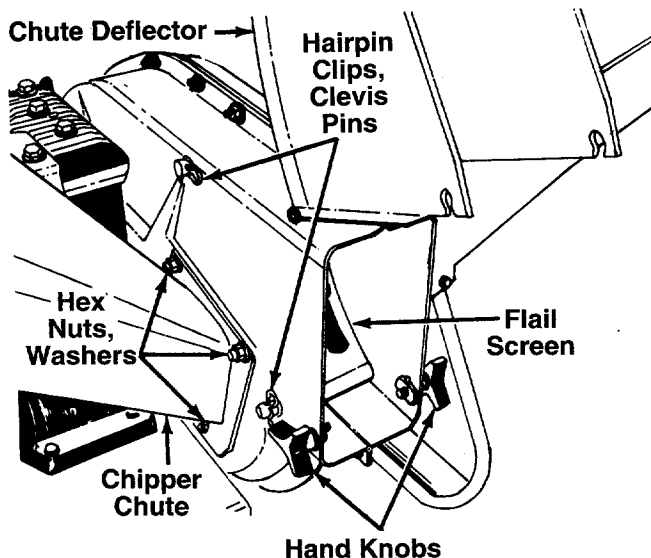

FIGURE 13.
3. Remove two hairpin clips from the clevis pins which extend through the housing. Remove the clevis pins. Lift the flail screen from inside the housing. See figure 13.
NOTE: Be certain to reassemble the flail screen with the curved side down as shown in figure 13.
3. Remove the chipper chute by removing three hex nuts and washers. A 1/2" wrench is required. See figure 13.